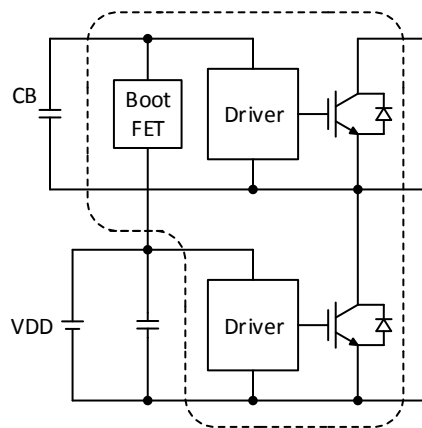

Figure 19. Boot Strap Circuit
VB3 The VBx pins are internally connected to the positive supply of the high-side drivers. The supply needs to be floating and electrically isolated. The boot-strap circuit shown in Figure 19 forms this power supply individually for every phase. Due to integrated boot FET only an external boot capacitor (CB) is required.